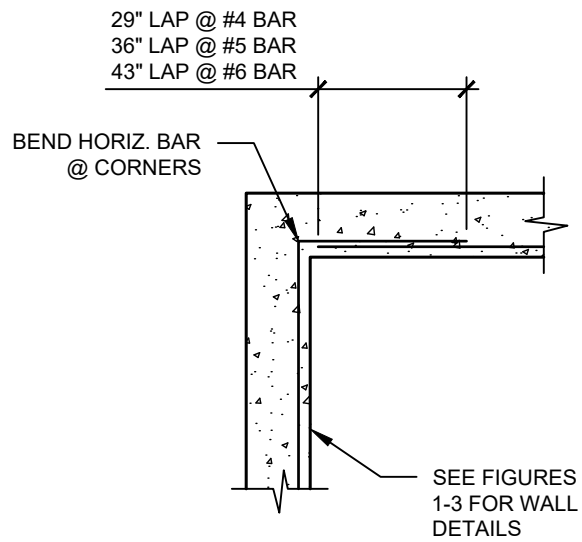

FIGURE 4A: TYP. CONC. WALL CORNER
- Refer to Figure 4A for reinforcing at wall corners.
7. Refer to Figure 4A for reinforcing at wall corners.